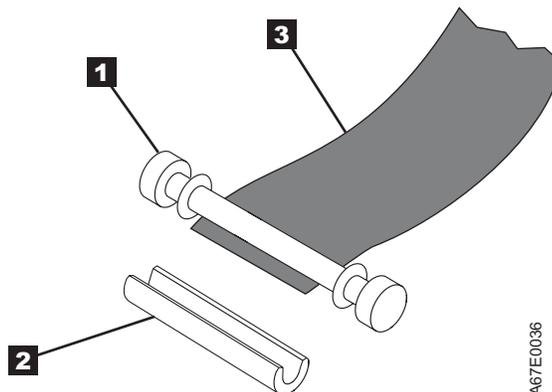

Figure 47. Removing the C-clip from the leader pin. Use your fingers to push the C-clip from the leader pin.
5. On the leader pin (**1** in Figure 47), locate the open side of the C-clip **2** . The C-clip is a small black part that secures the tape **3** to the pin.